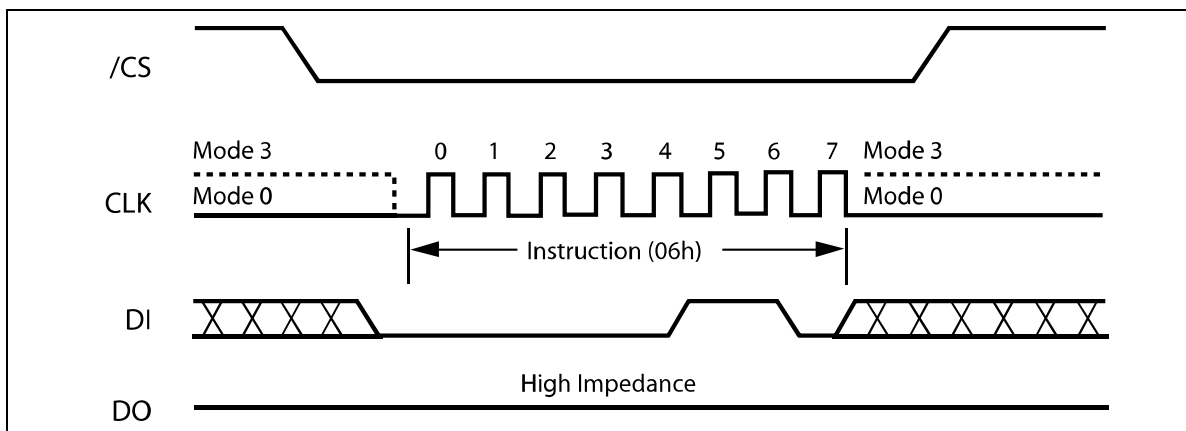

Figure 4. Write Enable Instruction
Instructions vary in length from a single byte to several bytes and may be followed by address bytes, data bytes, dummy bytes (don't care), and in some cases, a combination. Instructions are completed with the rising edge of edge /CS. Clock relative timing diagrams for each instruction are included in figures 4 through 39. All read instructions can be completed after any clocked bit. However, all instructions that Write, Program or Erase must complete on a byte boundary (/CS driven high after a full 8-bits have been clocked) otherwise the instruction will be ignored. This feature further protects the device from inadvertent writes. Additionally, while the memory is being programmed or erased, or when the Status Register is being written, all instructions except for Read Status Register will be ignored until the program or erase cycle has completed.
The Write Enable instruction (Figure 4) sets the Write Enable Latch (WEL) bit in the Status Register to a 1. The WEL bit must be set prior to every Page Program, Quad Page Program, Sector Erase, Block Erase, Chip Erase, Write Status Register and Erase/Program Security Registers instruction. The Write Enable instruction is entered by driving /CS low, shifting the instruction code “06h” into the Data Input (DI) pin on the rising edge of CLK, and then driving /CS high.